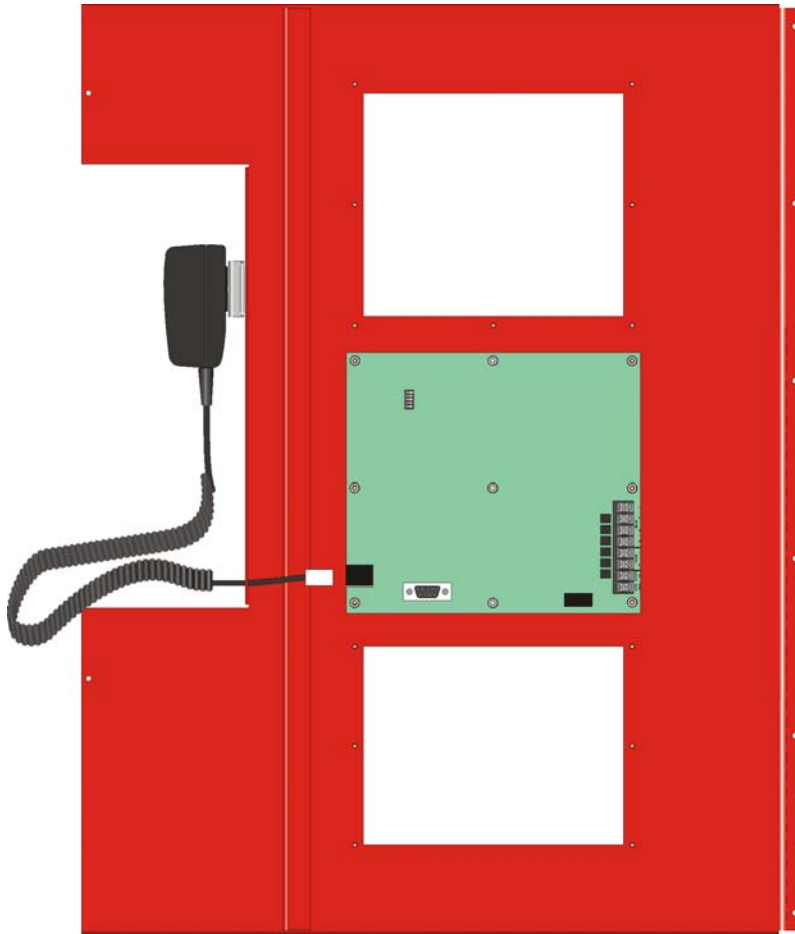

Figure 3-46 Back View of Dead Front Panel
4. Unplug the Microphone from the microphone connector. See Figure 3-46.